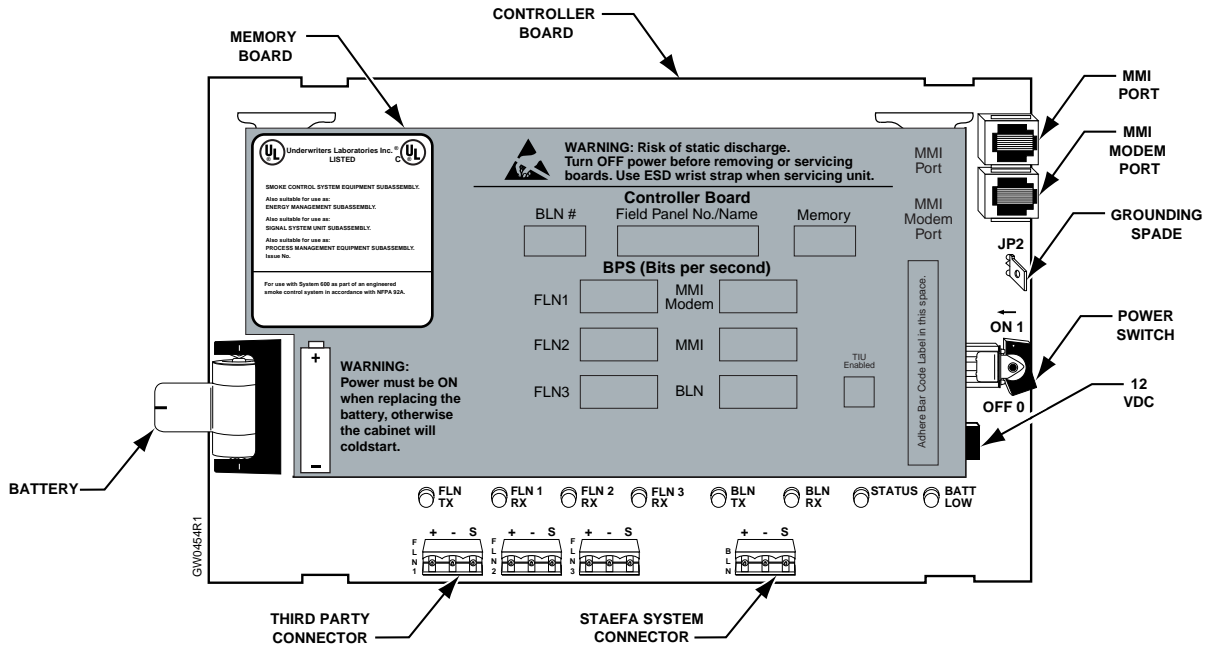

Figure 1. Easylink Controller Module.
Before removing or installing the Easylink Board, ensure that the power switch is shut OFF on the board (Figure 1).
7. Plug the grounding strap wire into the grounding spade labeled JP2 on the Easylink Module (Figure 1).
3. Switch on power to Easylink (Figure 1).